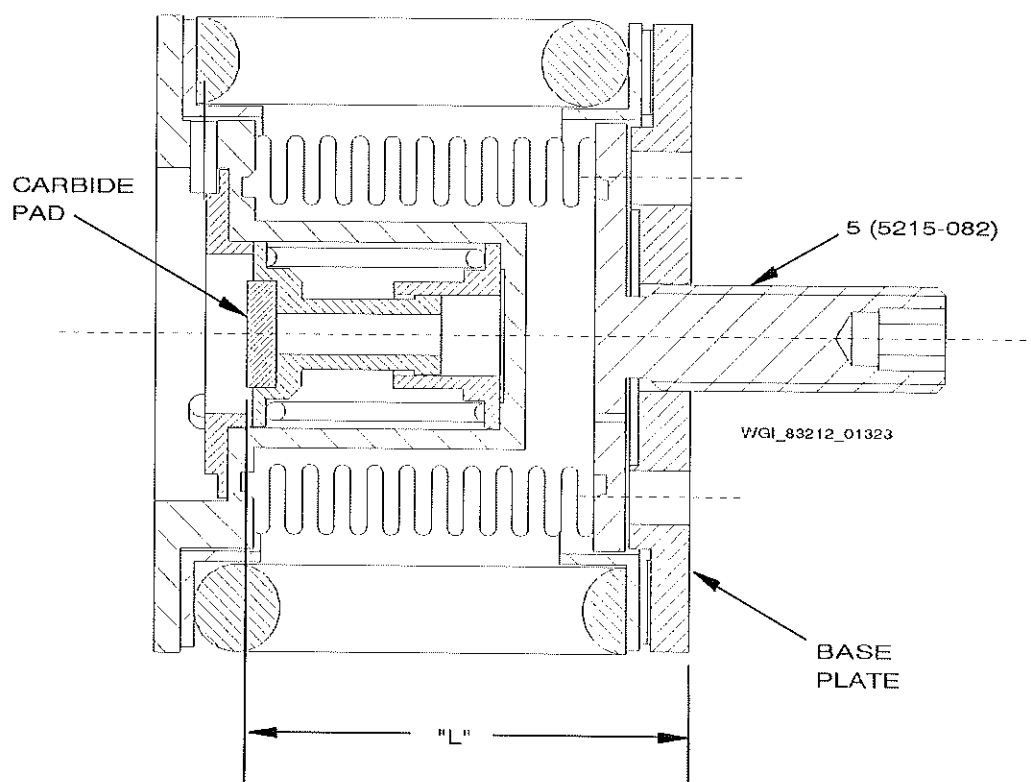

Figure 4 - CDP Bellows Assembly Check
- (1) Measure bellows assembly (5, Figure 4) length "L" from surface of base plate to top of carbide pad (see Figure 4). Compare measured length "L" to dimension "L" marked on the bellows assembly (5) end. If dimensions are different by more than 0.003 inch (0,08 mm), replace the bellows assembly (5). Bellows assembly (5) manufactured prior to December 1999 are not marked with an "L" dimension. Due to the age of these unmarked parts in addition to the lack of a length reference, these bellows assemblies (5) shall be replaced. Bellows assembly (5) manufactured after 1999 have a length dimension marked, but the dimension is not identified with a letter. Do not use the dimension identified with "H".